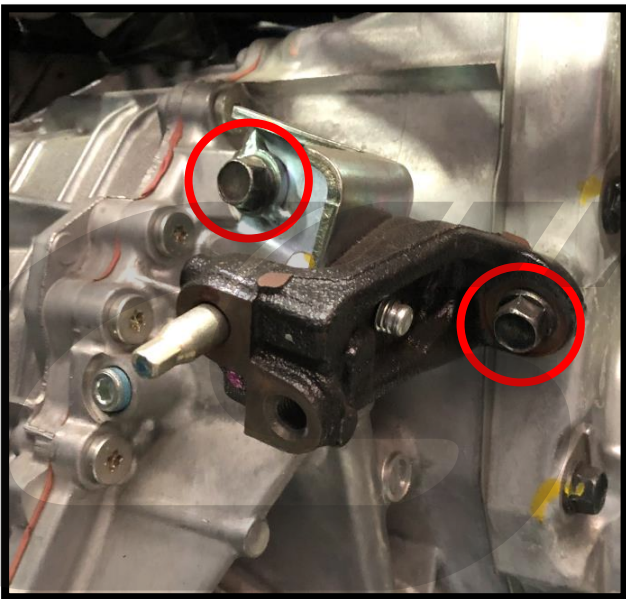

Figure 4i
- l) Remove the two 14mm bolts from the support bracket near the transmission. This is the same location where the OEM header was unbolted in Step 4b. Shown **circled in red** in **Figure 4i**.